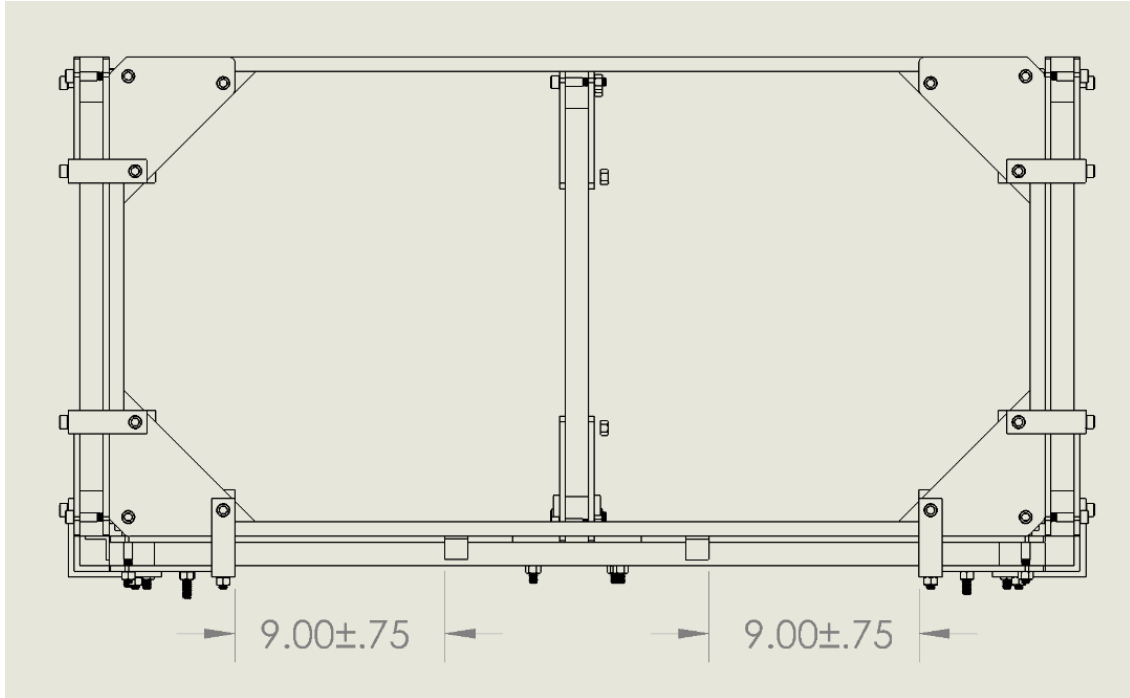

Figure 1.7
8. Epoxy two Side Support Brackets (PN THOA010) to the Bottom Coil, see step 2 for reference on this process. One leg of the bracket should be flush to the Bottom Coil, and the other flush to the Back Coil. The leg flush to the Back Coil **SHOULD NOT** be epoxied to the Back Coil. The outside edge of each Side Support Bracket should be about $9'' \pm 0.75''$ away from the closest edge of the nearest Longer Outer Angle Bracket. Dimensioning is shown in Figure 1.7.